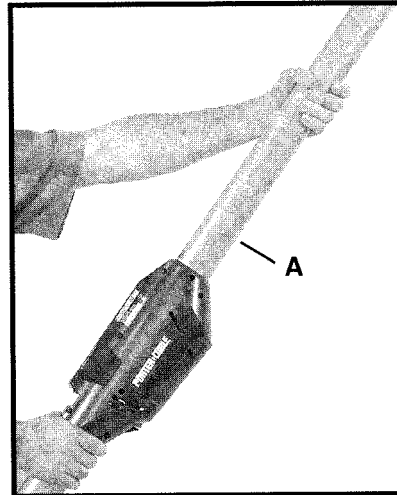

Fig. 1
The Drywall Sander should be held with both hands on the main tube (A) Fig. 1. The hands may be positioned anywhere along the main tube to provide the best combination of reach and leverage for the particular application.
CAUTION: Keep your hands on the main tube (A) Fig. 1. Keep away from the sanding head area. The sanding head swivels in multiple directions and could pinch your hand.